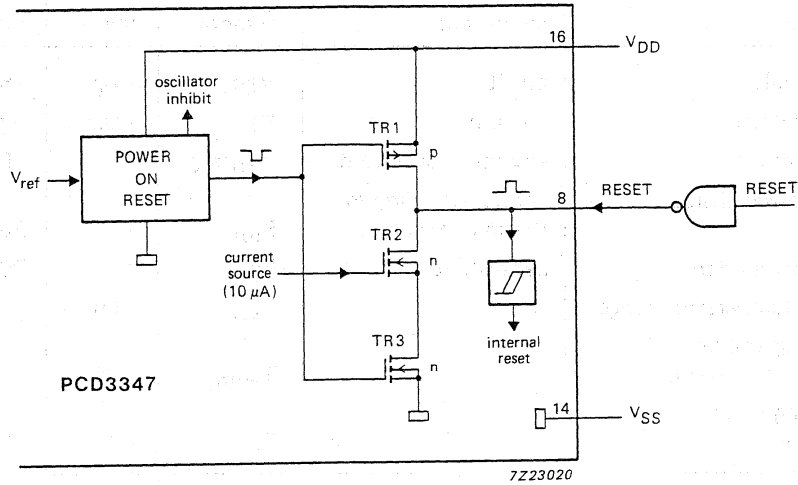
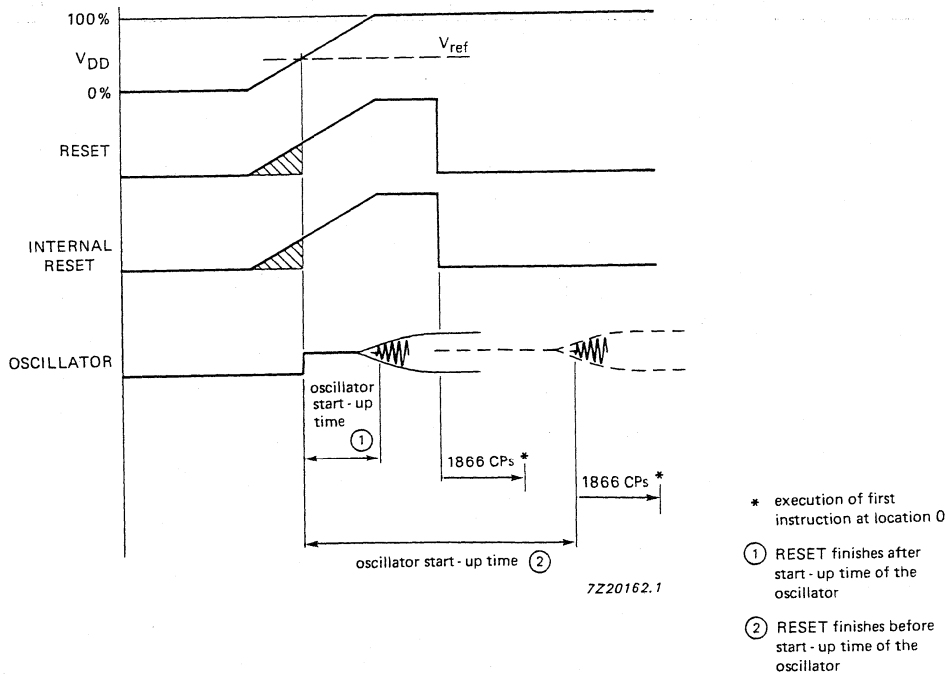

Fig. 22 External power-on reset configuration.
Fig. 23 Timing of external power-on reset.
3. Fig. 22 shows an external reset applied during power-on. The external reset signal must remain HIGH until  $V_{DD}$  has reached its minimum operating value corresponding to the selected oscillator frequency. When a reset is completed (RESET goes LOW) before the oscillator has started up, program execution begins after the oscillator start-up time plus 1866 clock periods (see Fig. 23). If the oscillator starts up prior to the completion of RESET then program execution begins 1866 clock periods after RESET goes LOW.